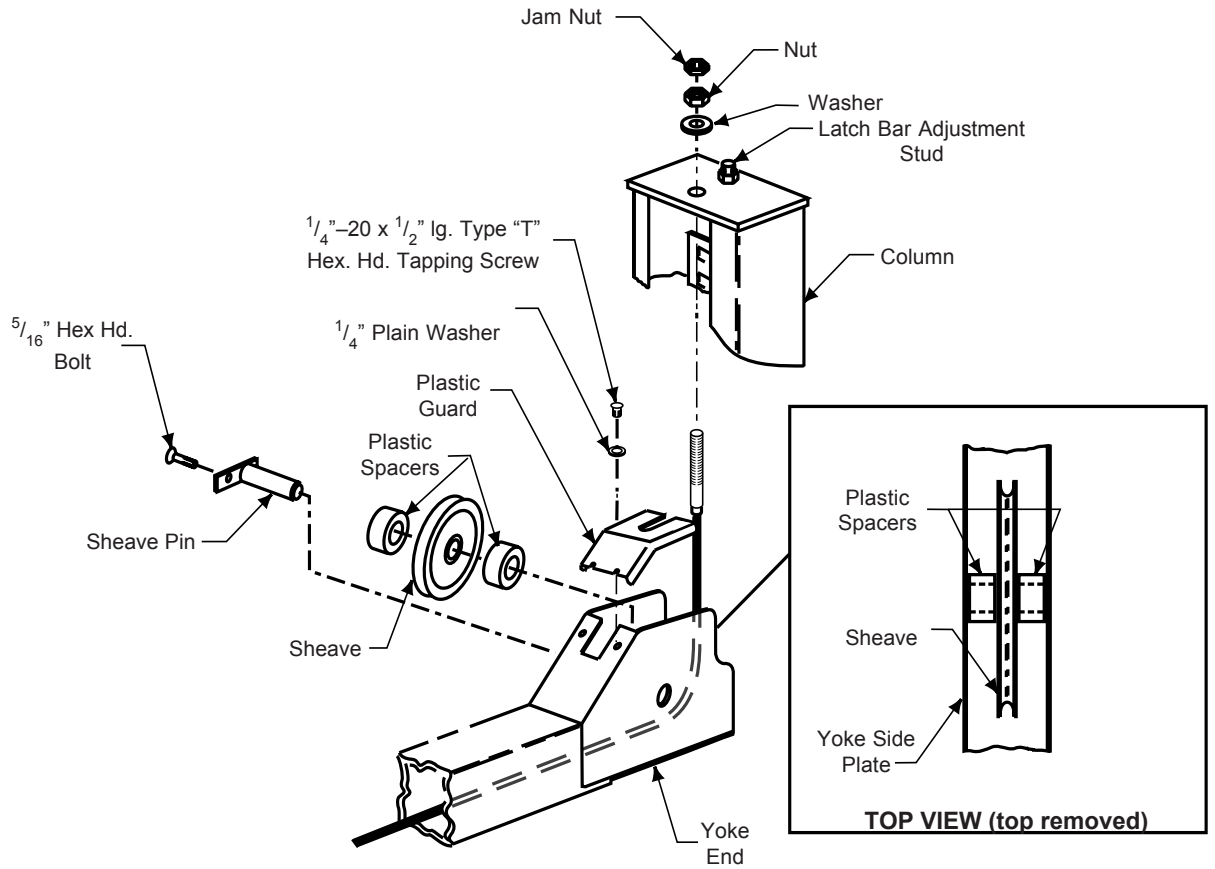

Fig. 8
- F. Install yoke end sheaves and plastic spacers, Fig. 8. A plastic spacer is placed on each side of the sheave, inset Fig. 8.
- G. Retain with sheave pin and 5/16" hex head machine bolt. Attach each cable to column top plate with spacer, nut, and jam nut, Fig. 8. Install rubber sheave guard on each yoke end, Fig. 8. Roping diagram shows a view of completed roping, Fig. 9.
Adjust cable with lift fully lowered. Loosen jam nut and tighten nut on cable stud on top of column until yoke end raises $\frac{1}{4}$ ". Back off nut one turn. Retighten jam nut. Repeat for all four cables. Refer to Fig. 8.